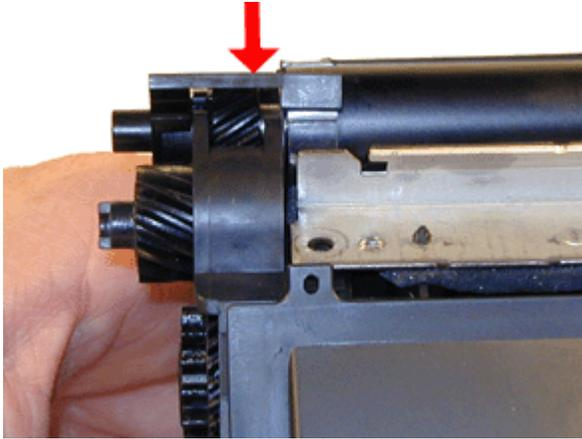

FIGURE 29
23. Install both developer roller clips, larger on the gear side, smaller on the fill plug side. Lock both clips in place. Make sure that the clear tensioner strips are under the clip tabs. See Figures 29, 30, & 31.